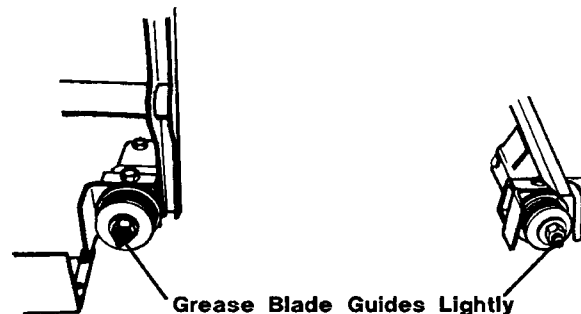

FIG 4-1
1. Grease the two blade guides (See Figure 4-1). Do not lubricate until grease is oozing out of the gaps. The purpose of greasing every two hours is to purge the sawdust out of the bearings.